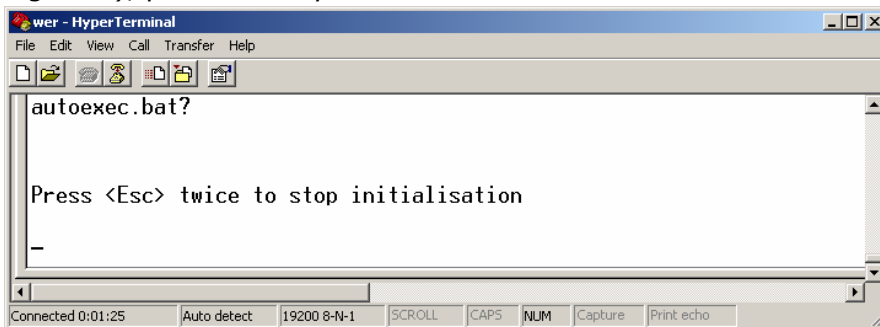

Figure 6
- Enter `'restartcpu'` command and follow the strings displayed on ASCII console window; as soon as `'Press <Esc> twice to stop initialisation'` string appears (see Figure 6), press Esc key twice.